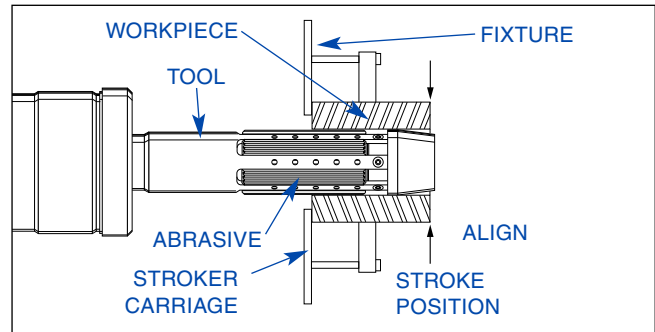

FIGURE 3-5, Set Bore Position
- Use F2 (OUT) and F3 (IN) along with Palm Buttons, to move Carriage until leading front edge of abrasive sleeve is at front of bore (see Figure 3-5).